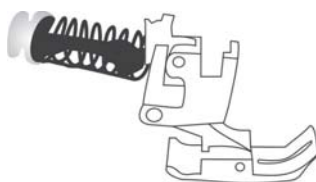

Figure 21 - Sliding presser foot
**Sliding presser foot** – This presser foot slides with the movement of feeding in elliptical motion, in direction of feed dog (Action can be called floating type, thus reducing feed pucker). It is used for stretchable fabrics which are prone to pucker and where lower ply gets damaged because of stretch (for example Bias or Crepes). (Figure 21)